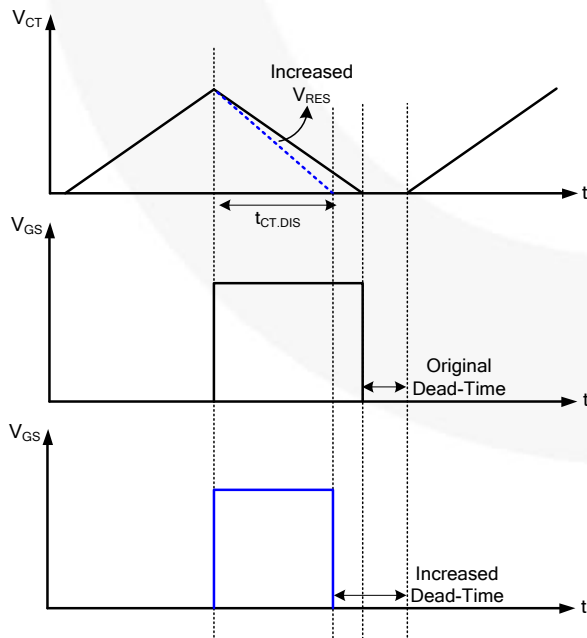

Figure 11. Increase SR Dead-Time
In contrast, if SR dead-time is too small, decrease R_3 or increase R_4 . Either way, V_{RES} is increased and the discharge time of C_T capacitor ($t_{CT,DIS}$) is reduced to increase the dead-time, as shown in Figure 11. However, note that (14) must be satisfied when increase V_{RES} .